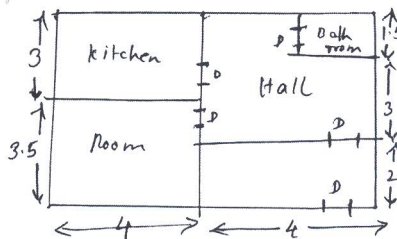

Fig.Q4(b)
- Company's meter will be located in the front verandah. Draw the single line diagram for lighting and heating circuits on the sketch. Calculate : i) Total load current, length of casing and cable and size of the cable ii) determine the quantity of materials for lighting and do the estimation. Assume : i) Heating load 2500W ii) Height of ceiling as 3.6 meter.(Refer Fig.Q4(b).